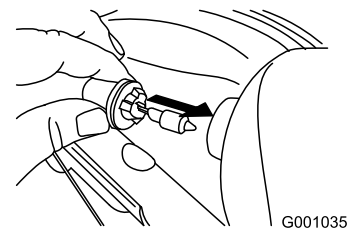

Figure 64
4. Insert a new bulb into the back of the headlight (Figure 64).